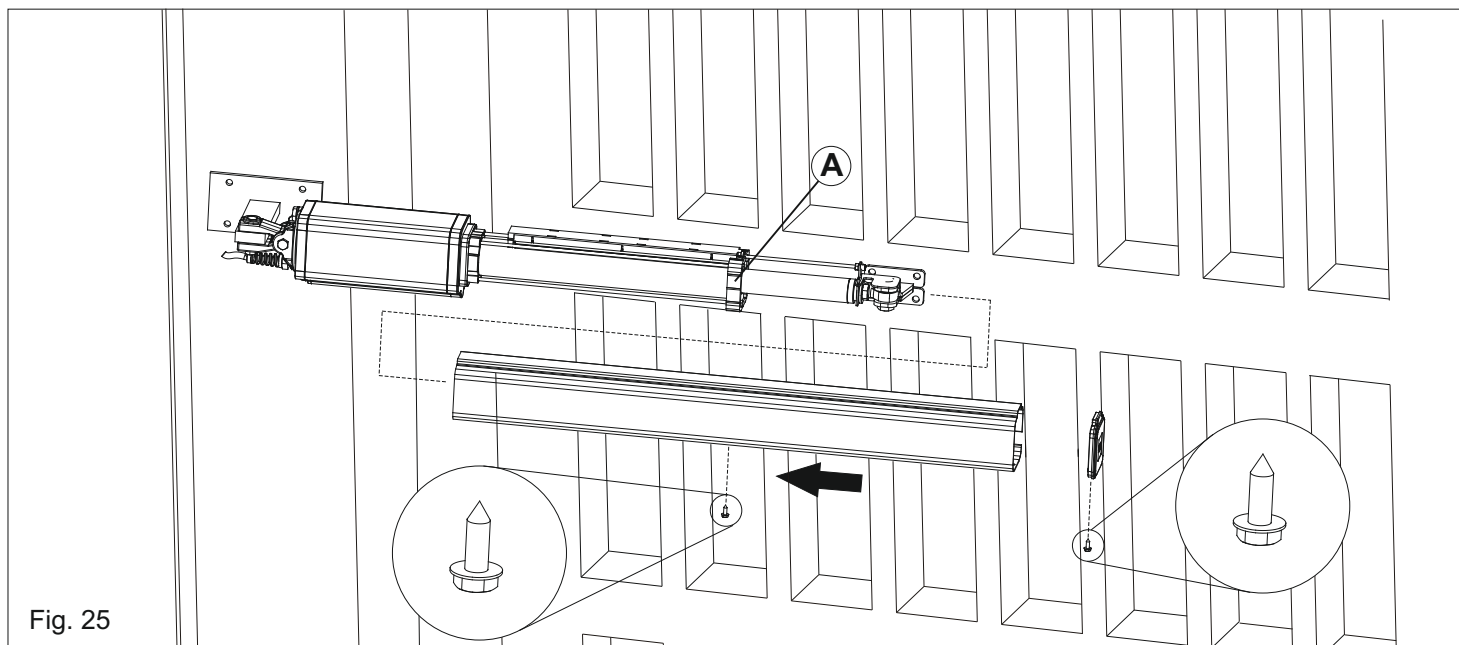

Fig. 25
Make sure to have inserted the antivibration plastic frame (A) before inserting the rod cover extrusion (Fig. 25).